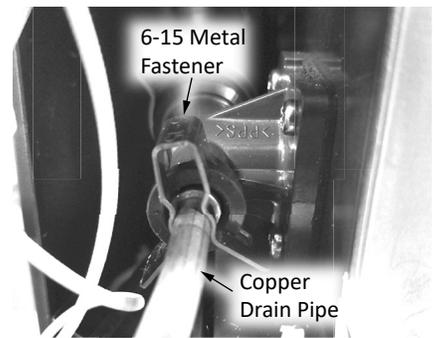

Figure 62: Copper Drain Pipe.
- 18 Disconnect the 6-15 metal fastener from the small copper drain pipe(# 465). Set the fastener aside for re-installation. See Figure 62.
38 Reconnect the small copper drain pipe (# 465). Use the provided O-ring. Inspect the O-ring, if any cuts or nicks are present replace it immediately. Use the 6-15 metal fastener removed earlier. See Figure 62 on page 56.